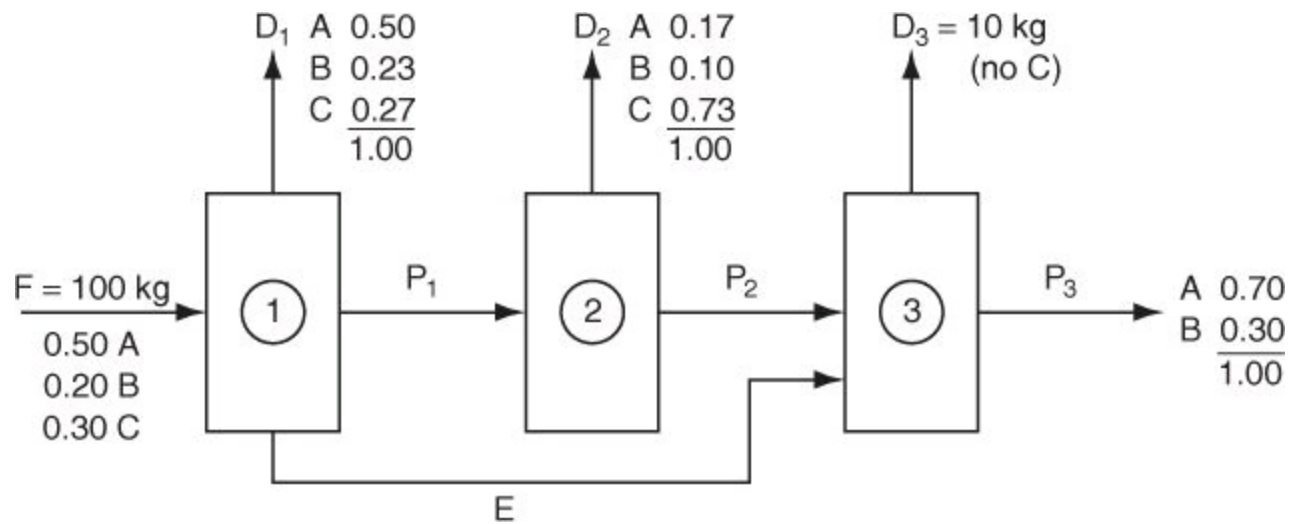

Figure P6.2.8
***6.2.8. Figure P6.2.8 shows a three-stage separation process. The ratio of P_3/D_3 is 3, the ratio of P_2/D_2 is 1, and the ratio of A to B in stream P_2 is 4 to 1. Calculate the composition and percent of each component in stream E.